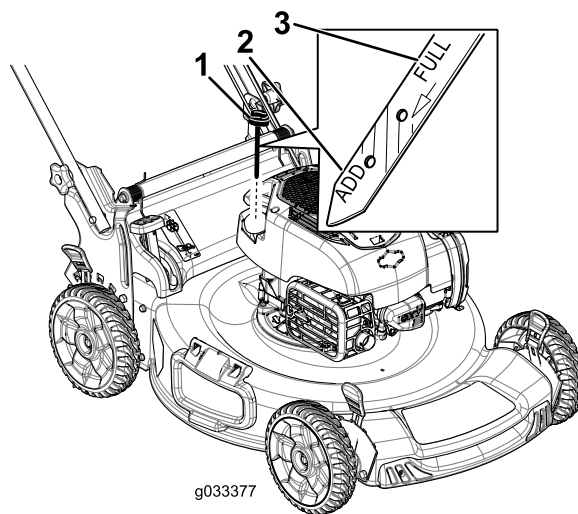

Figure 14
2. Remove the dipstick by rotating the cap counterclockwise and pulling it out (Figure 14).
5. Read the oil level on the dipstick (Figure 14).
- If the oil level on the dipstick is too low (Figure 14), carefully pour a small amount of SAE 30 or SAE 10W-30 detergent oil into the oil-fill tube, wait 3 minutes, and repeat steps 3 through 5 until the oil on the dipstick is at the correct level. For the oil type, refer to 3 Filling the Engine with Oil (page 7).
- If the oil level on the dipstick is too high (Figure 14), drain the excess oil until the oil on the dipstick is at the correct level; refer to Changing the Engine Oil (page 21).